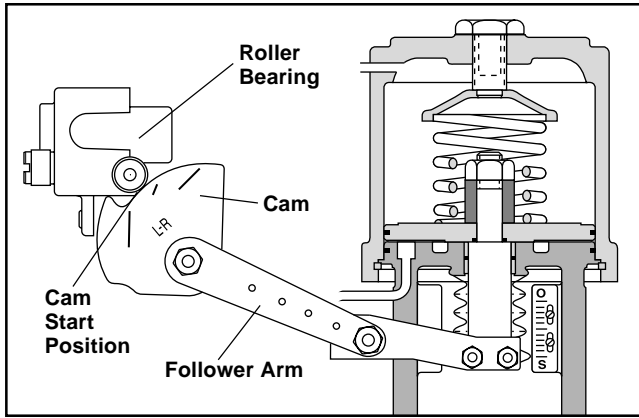

Figure 4: Cam Alignment
7. Feed the follower pin into the appropriate slot in the take-off arm. (See Figure 4.) Tighten the nut on the pin and grease the slot where the pin rides.
9. If necessary, adjust the height of the stem clamp so the first line of the cam aligns with the center of the cam roller-bearing when the valve is seated. (See Figure 4.) Tighten the stem clamp.